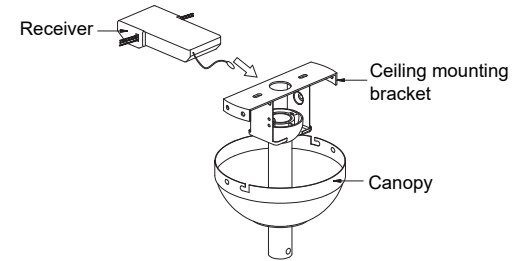

Fig. 12
NOTE: Please recheck to make sure the switches on transmitter and receiver are set to the same position. Any combination of settings will operate the fan as long as the transmitter and receiver are set to the same position (**Fig 12**).
Step 1. Insert the receiver into the ceiling mounting bracket with the flat side of the receiver facing the ceiling (**Fig 12**). For best performance, make sure the black antenna on the end of the receiver remains extended and not tangled with any of the electrical wires.